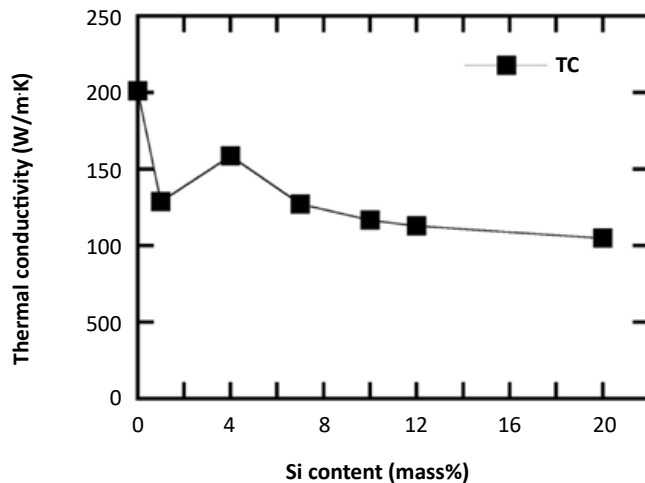

Fig. 5 Thermal conductivity [TC] of Al-xSi SLM specimens fabricated under the optimum laser scan parameters [1]
Fig. 5 shows the thermal conductivity (TC) of the Al-xSi L-PBF specimens. The TC shows a similar trend to that of the EL in Fig. 4, i.e., the TC decreased from 200 W/m·K for the Al-0Si L-PBF specimen to 105 W/m·K for the Al-20Si L-PBF specimen. The decrease in the TC was mainly attributed to the increase in the solid-solute Si in the aluminium matrix. This is because the lattice strain, induced by the solid-solute Si, acted as scattering sites for conduction electrons, leading to an increase in the thermal resistivity.